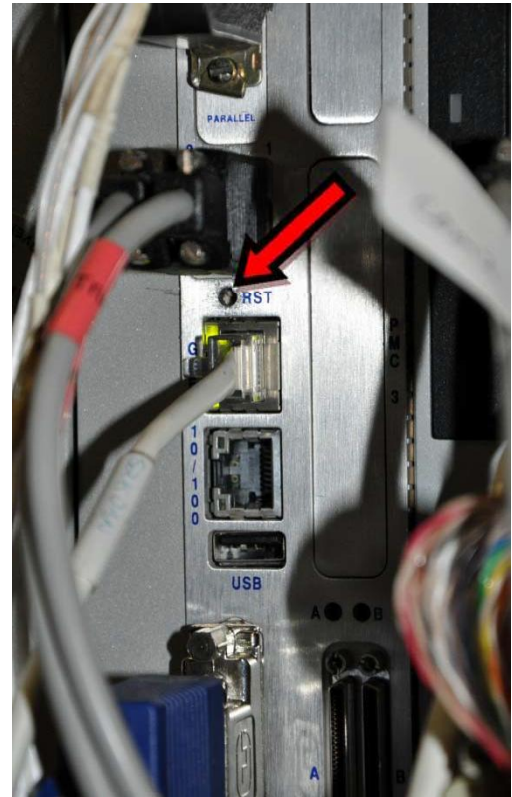

Figure 8-15: The reboot button is located at a similar location on the POP and DAM computers
1. Use the “reboot tool” to press the recessed button labeled “RST” on the front of the POP computer (Figure 8-15). Make sure you select the correct computer and don’t accidentally reset DAM. The POP computer will go through several file system checks, which may prove to be a lengthy process.
If the keyboard is unresponsive on the DAM/POP terminal, or the soft reboot hangs, you will need to do a hard reboot of the DAM computer. Use the “reboot tool” to press the recessed button labeled “RST” (Figure 8-15) on the front of the DAM computer. Make sure you select the correct computer and don’t accidentally reset POP.